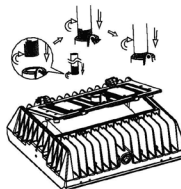

Figure 19
3. After the wiring is completed, put the threaded pipe into the hole, turn it clockwise to tighten it and then tighten the nearby fixing screw and hold it against the threaded pipe (Figure 19).